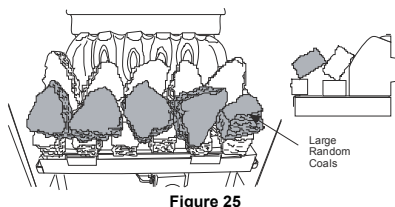

Figure 25
5. Continue laying the coals as shown in **Figure 25** to **Figure 28** ensuring that the coals are placed 'loosely'. Packing the coals too tightly together will result in a poor flame picture. The best results come from a 'loose' fuel build.